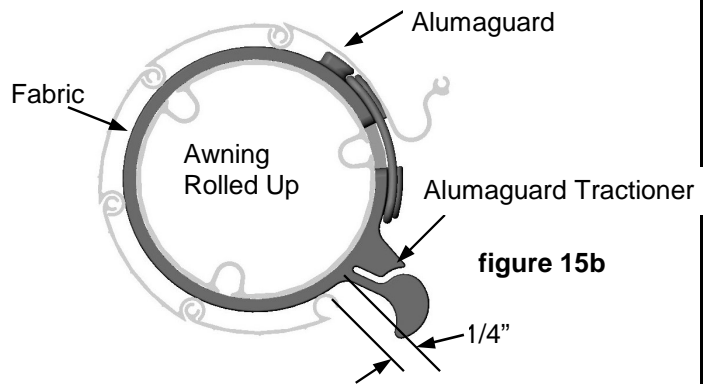

figure 15b
C. Position the tractioner as shown in figure 15b and 15c.